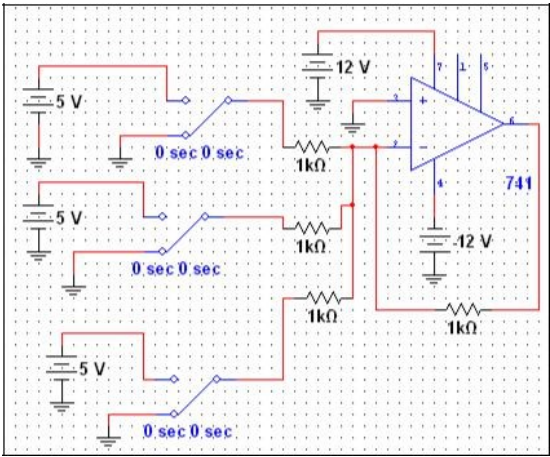

Figure 7.4: Exercise 1
- The summing amplifier is shown in figure 7.4 and is characterized by a set of N parallel input voltages, each in series with a resistor of a specific value.